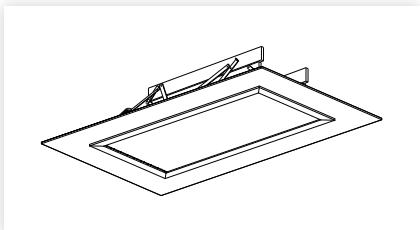

figure 13
1. Fix a suitable architrave around the lid leaving a 2-3mm gap (figure 13).